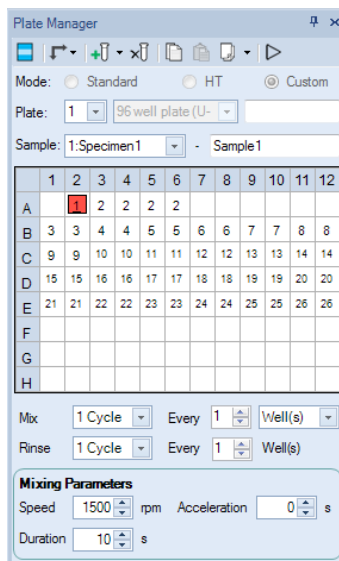

Figure 3-8 Plate Manager Panel after Experiment Samples Created
- 6 Select both well B1 and B2, click the *Duplicate Sample(s) on Selected Well(s)* button , in the *Plate Manager* panel toolbar 23 times to create the remaining 23 specimens and 46 samples. Sequentially rename each of the newly created specimens as *Name2*, *Name3*, etc. The created samples in the *Plate Manager* panel are shown in Figure 3-8.
- 7 Set the Mixing parameters as shown in Figure 3-8 as well.